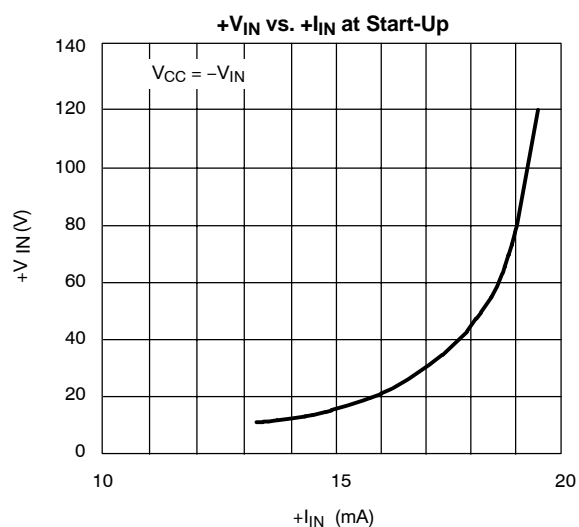

FIGURE 4.
**Note:** During start-up or when  $V_{CC}$  drops below 9.4-V the start-up circuit is capable of sourcing up to 20 mA. This may lead to a high level of power dissipation in the IC (for a 48-V input, approximately 1 W). Excessive start-up time caused by external loading of the  $V_{CC}$  supply can result in device damage. Figure 4 gives the typical pre-regulator current at start-up as a function of input voltage.